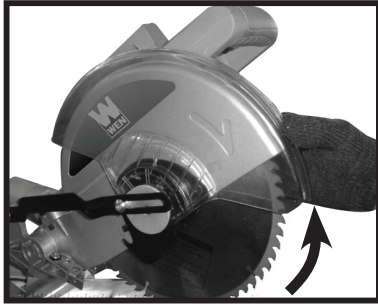

Figure 4
5. Raise the Blade Guard and Center Cover. (See Figure 4.)